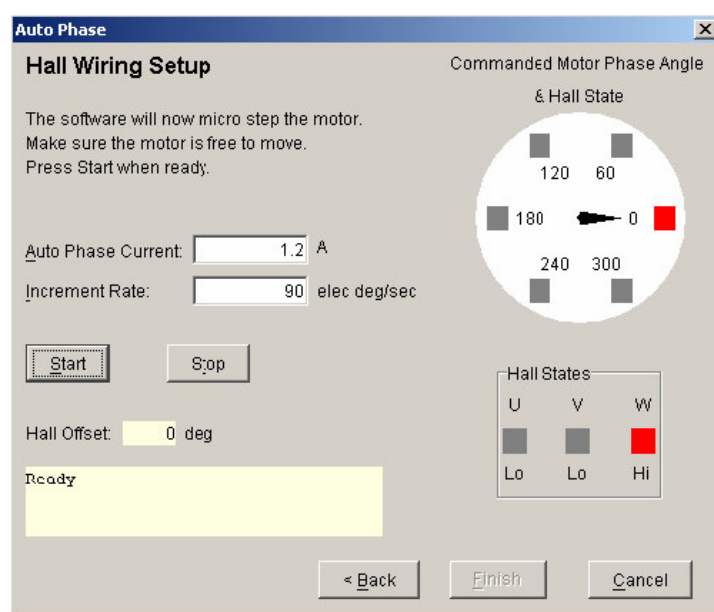

Fig. 23 Hall Wiring Setup
- f. Press on Skip or Next and Fig. 23 will appear. Then press on start to activate, and the driver will start collecting information from digital hall sensor for servo on procedure.